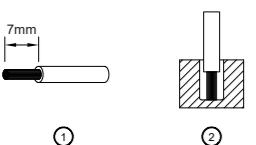

Figure 4
(1)	0.823-8.365	18-8	10.34	9
(2)	0.20-3.3	24-12	6.9	6
To secure reliable and shock proof connections, the stripping length should be 7mm (see Fig. 4 (1)). Please ensure that the wires are fully inserted into the connecting terminals as shown in Fig. 4 (2). All wire strands must be fully inserted into the terminals with the screws securely fastened in order to ensure safety and maximum contact.